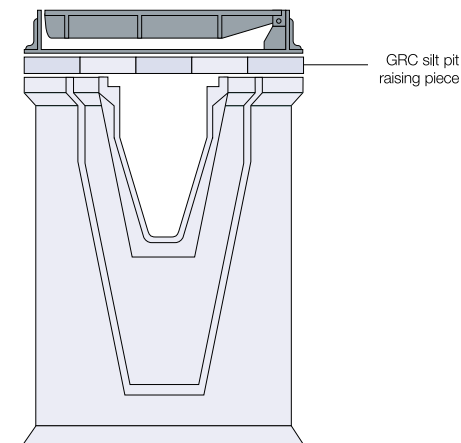

FIGURE 3d: SILT PIT WITH GRC RAISING PIECE
*When using Forma D400 and Stilpro BP lid units it will be necessary to raise the level of the manhole cover and frame with a GRC silt pit raising piece, as detailed in Figure 3d using the appropriate bedding mortar.